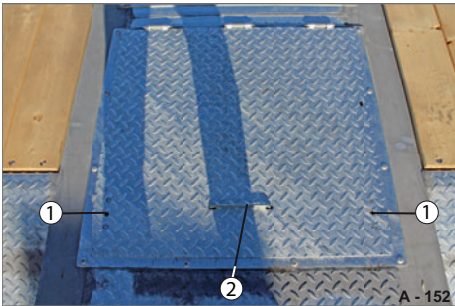

Fig. 70 Storage compartment closed
- ▶ Remove the countersunk handle (Fig. 70/2).